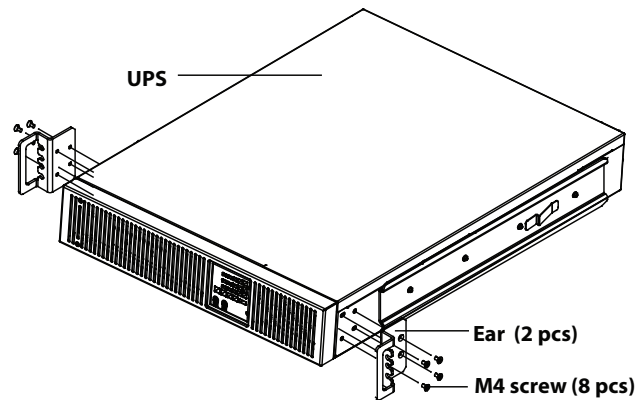

Figure 13: Installing ears
8. Use M4 screws to install ears on both sides of the UPS as shown in Figure 13.